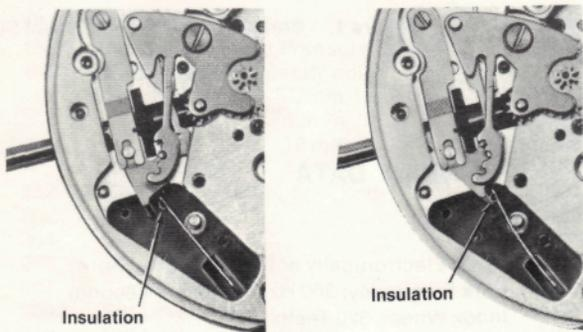

Figure 3. Switch Spring and Switch Post
- When disengaged, the gap between the switch spring and switch post (contact) of the disconnect system should be 0.2 mm (2 switch spring thicknesses) when viewing from the dial side. Fig. 3.